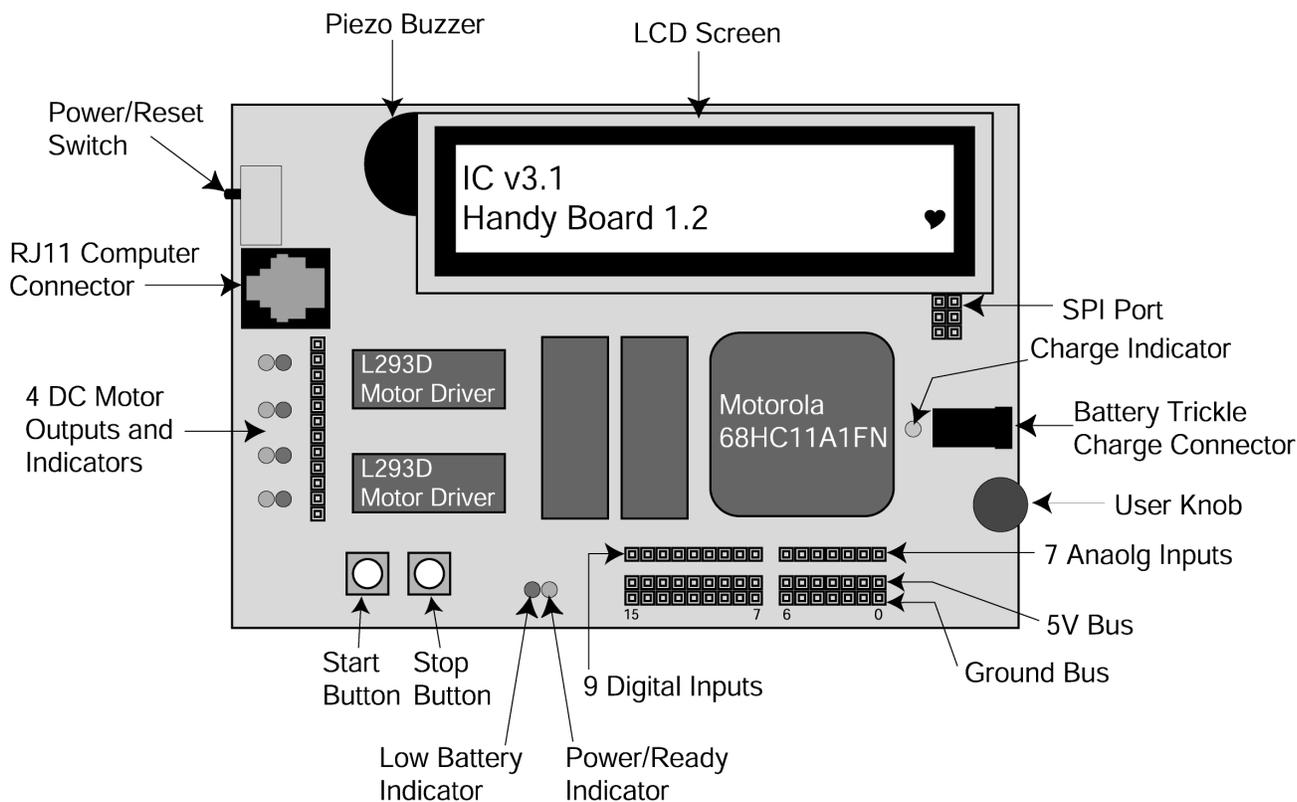

Figure 1. Handy Board labeled features.
The Handy Board is a small experimental board developed by Fred Martin of the MIT Media Laboratories. The main features of the Handy Board are a Motorola 68HC11 microprocessor chip, four DC motor outputs, seven 8-bit analog inputs, nine digital inputs, and a 16x2 LCD screen, as well as other features. It is easily programmable using Interactive C (a C programming language) developed by Randy Sargent of MIT. A diagram of the Handy Board with labeled features is shown below in Figure 1.
- a) One end of the RJ11 modular cable (looks like a telephone cable) should be plugged into the computer connector port on the Handy Board (see Figure 1).
2. Insert the plug-in transformer into a wall outlet. Insert the other end into the receptacle on the Handy Board battery trickle-charge connector (see Figure 1). This step will keep the batteries on the Handy Board charged while you are working on it, but is not necessary if the batteries are fully charged.
Now type `beep(); <enter>`. You should hear a short tone coming from the piezo buzzer (see Figure 1). Try typing `tone(800., 5.); <enter>`. You should hear a tone at 800 Hz for 5 seconds. Other commands are included at the end of this lab handout. Explore them later.
Turns on motor *port m* at power *level p*. There are four motor ports on the Handy Board, labeled Motor-0, Motor-1, Motor-2, Motor-3 (see Figures 1 and 3 for location). The power level ranges from 100 for full on forward to -100 for full power in reverse. Although the range of power levels goes from -100 to 100 in increments of 1, there are actually only 15 motor speeds (See Table 2 below).
Refer to Figure 1 for the location of the analog and digital ports. Note that these ports are the top of the three strips in that area, and are numbered from right to left. The bottom strip is ground, and the middle strip is a +5 supply voltage that can be used to power sensors. The top strip is for the sensor signal (this is the value that will be read by the **analog** and **digital** functions).
A function that returns the position of the user knob (see Figure 1) as a value between 0 and 255. The knob is a potentiometer whose wiper is connected to an 8-bit analog-to-digital converter.
Returns the value of the button labeled "Start" (see Figure 1). Returns 1 if pressed and 0 if released.
Returns the value of the button labeled "Stop" (see Figure 1). Returns 1 if pressed and 0 if released.